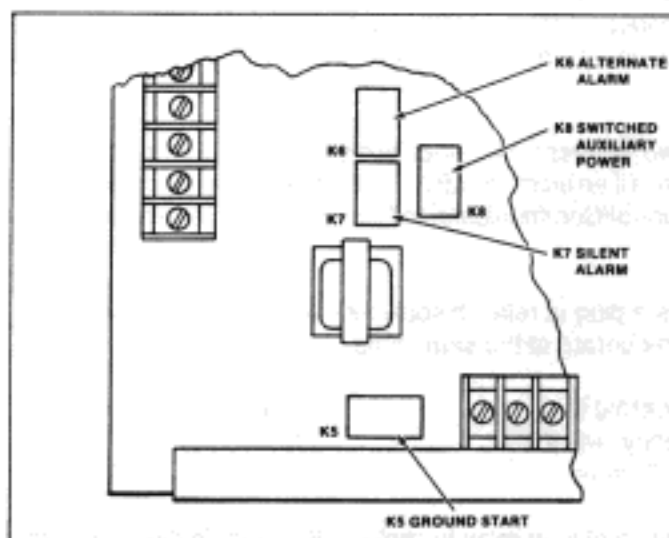

Figure 5. Plug-in Relay Location
- 7.2 Location** - DIP sockets are located on the bottom left corner of the D8112 I/O board. Only the ground start socket (K5) is visible when the faceplate/shield is in place. The other three sockets are located under the shield. When the shield is removed, the sockets are positioned as shown in Figure 5.